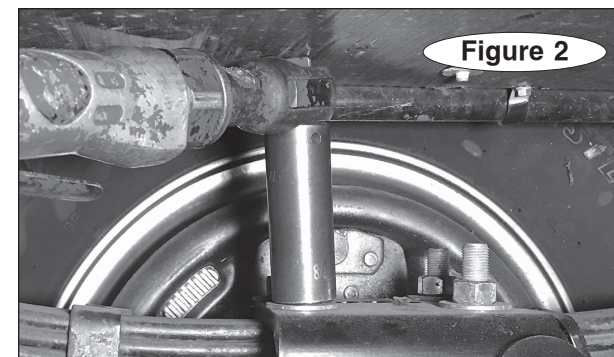

Figure 2
- c. Detach the axles from the springs by removing the axle U-bolts and tie plates (Figure 2). Keep the tie plates and hardware for re-installation.